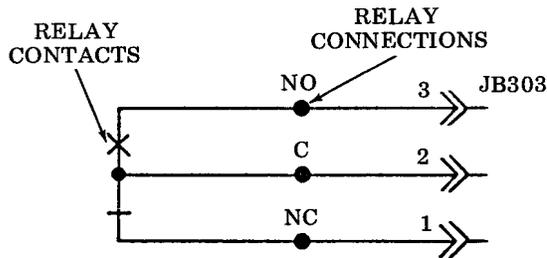

Figure 24 - Alarm Circuit Connections
5.102 Program cards as necessary for system operation. Refer to 5.94 for coding instructions. When both cards are coded, observe code relationship between character recognizer detector (MC986) circuit X, Y, or Z and character generator (MC982) circuit X, Y, or Z in Figure 24.
5.107 The alarm relay has a set of contacts for connecting to a Telco alarm device. Figure 24 shows the contacts in their normal inoperable condition (NO — normally open, NC — normally closed, and C — common). Telco wiring connects to JB303, relay contacts are limited to the electrical ratings listed in the following paragraph.